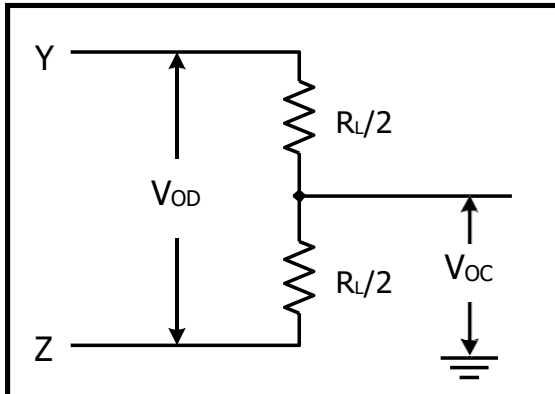

图 1.驱动器 DC 测试负载
Figure 1 illustrates the typical full-duplex application circuit for the HGX3070E, HGX3073E, and HGX3076E devices. The circuit consists of two 14-pin DIP/SO packages connected in a full-duplex configuration. Each package has pins for Vcc (14), N.C. (1, 13), A (12), B (11), Z (10), Y (9), and N.C. (8). The left package's R (2) and D (5) pins are connected to the right package's D (5) and R (2) pins respectively, with a resistor Rt in series. The right package's R (2) and D (5) pins are connected to the left package's D (5) and R (2) pins respectively, also with a resistor Rt in series. The circuit is powered by Vcc (14) and ground (6, 7).